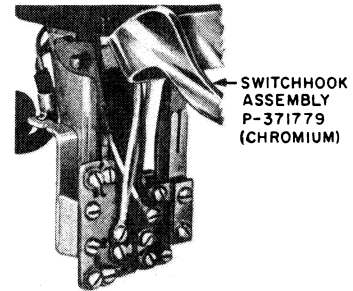

Fig. 21 — Cord Holder on G6 or G7 Handset Mounting
6.10 The cord holder on the G6 and G7 handset mountings will enable handset cords equipped with either an S hook or stayhook to be terminated (see Fig. 21).